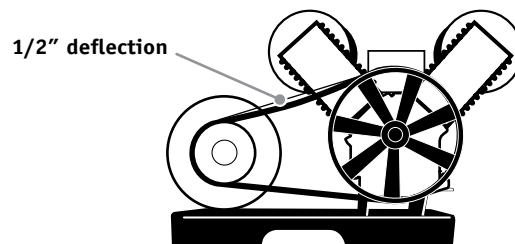

Figure 3: Proper belt tension
6. Install belts. There should be 1/2” slack for proper belt tension. See figure 3.
2. Check for proper belt tension. There should be 1/2 inch slack. Refer to figure 3, pg. 4.
1. Proper belt tension is determined by pressing on belt midway between motor pulley and flywheel. There should be approximately 1/2 inch of deflection. Refer to figure 3, pg. 4.